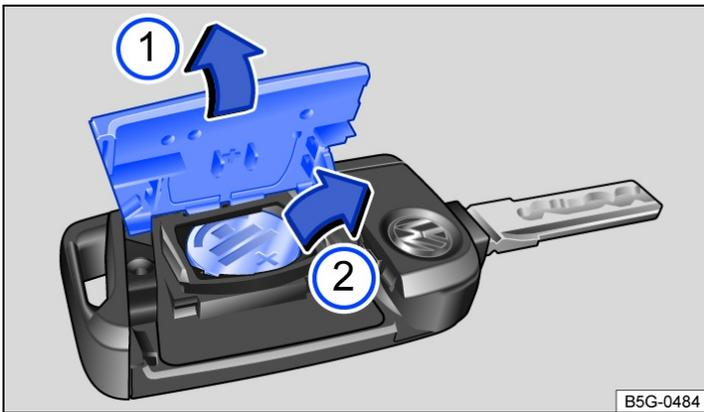

Fig. 1 Vehicle key: replacing the button cell.
Key to Fig. 1:
- Lever off the cover → Fig. 1 ① → ⓘ.
- Lever the button cell out of the battery compartment → Fig. 1 ②.